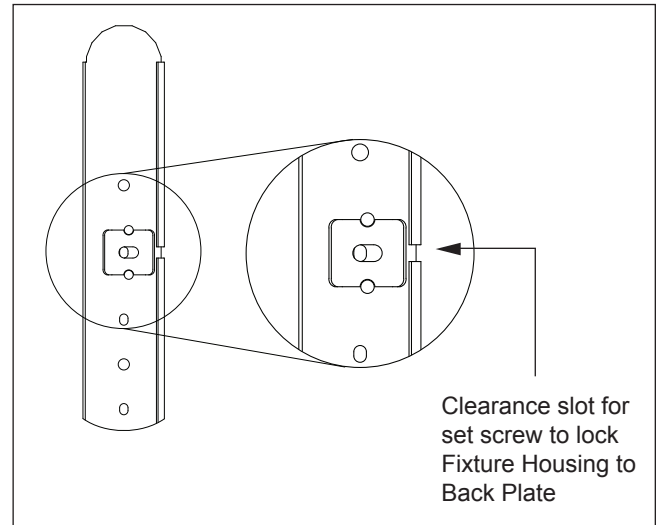

Figure 4
1. The SoftLook fixture is locked onto the Back Plate with set screws located on one side of the housing. It is up to the Installer to determine the preferred orientation of the fixture but the Back Plate has to be installed to match the preferred direction of the set screws. See Figure 4.